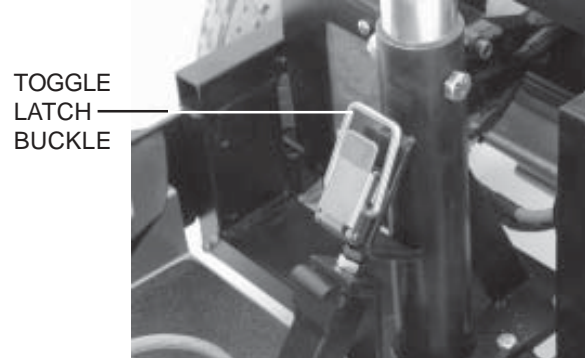

Figure 18. Toggle Latch (Unlatched)
2. Position the toggle latch buckle over the top of the toggle latch. See figure 18.